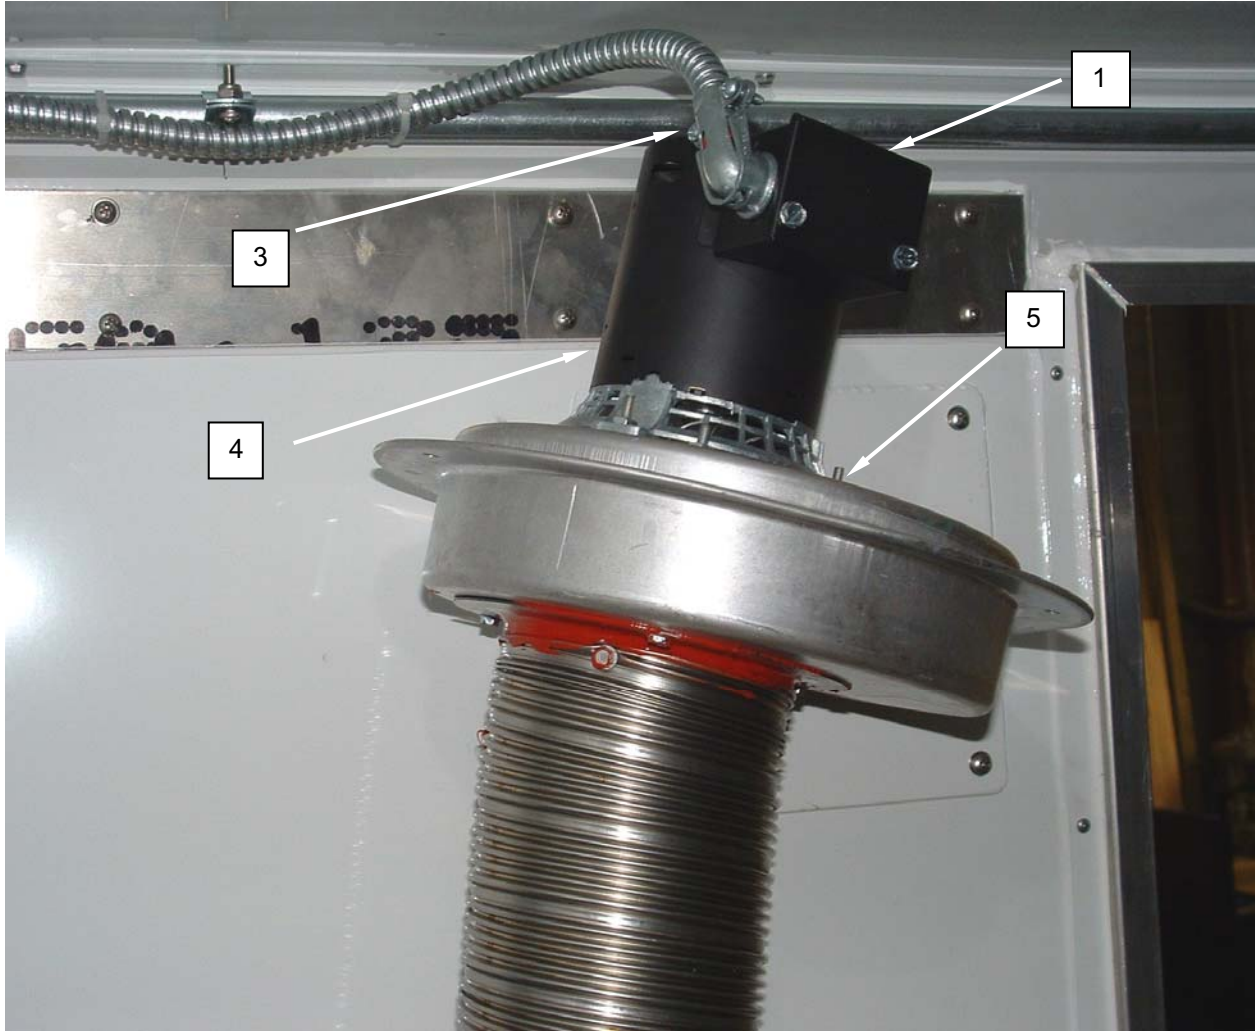

Figure 2. Replace the Draft Inducer.
2. Remove screws retaining junction box cover (**Figure 2, Item 1**), and remove cover.
4. Remove locknut retaining conduit (**Figure 2, Item 3**) to junction box and remove conduit.
5. Remove screws retaining fan (**Figure 3, Item 4**) to fan volute (**Figure 2, Item 5**) and remove fan.
6. Remove screws retaining replacement fan (**Figure 2, Item 4**) to replacement fan volute (**Figure 2, Item 5**) and remove replacement fan.
7. Remove screws retaining junction box cover (**Figure 2, Item 1**) to replacement fan (**Figure 2, Item 4**), and remove cover.
9. Install conduit (**Figure 2, Item 3**) into junction box, and retain with locknut.
11. Install replacement fan (**Figure 2, Item 4**) into fan volute and retain with screws.
12. Install junction box cover (**Figure 2, Item 1**), and retain with screws.